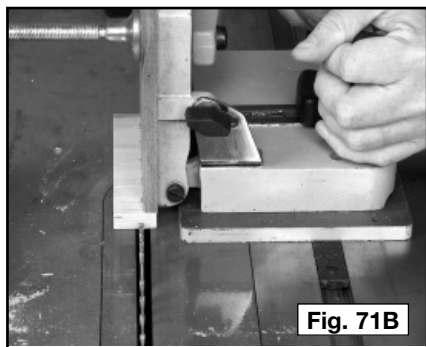
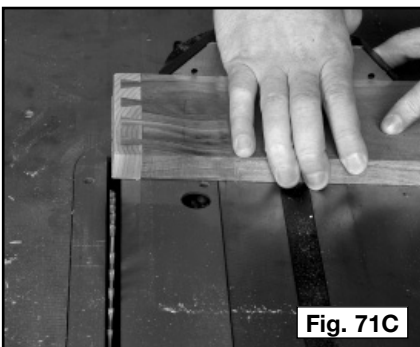

Fig. 71B
Fig. 71C
After the joint has dried, cut off the inlay board. Cut off the pin board flush with the inside edge of the tail board (Fig. 71B). Then cut off the front edge of the inlay board (Fig. 71C), making sure that the remainder of the inlay (A) Fig 71D is cut so that the thickness is equal to the thickness found in the table on the previous page.